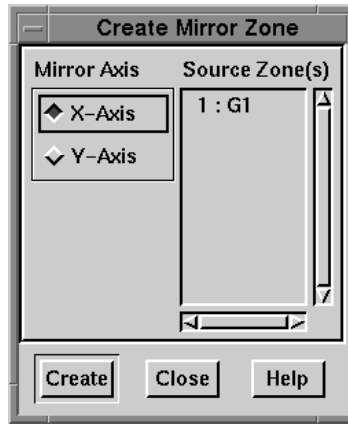

Figure 25-16. The Create Mirror Zone dialog for a 2-D image.
1. From the Data menu, choose Create Zone, then Mirror. The Create Mirror Zone dialog appears, as shown in Figure 25-16.